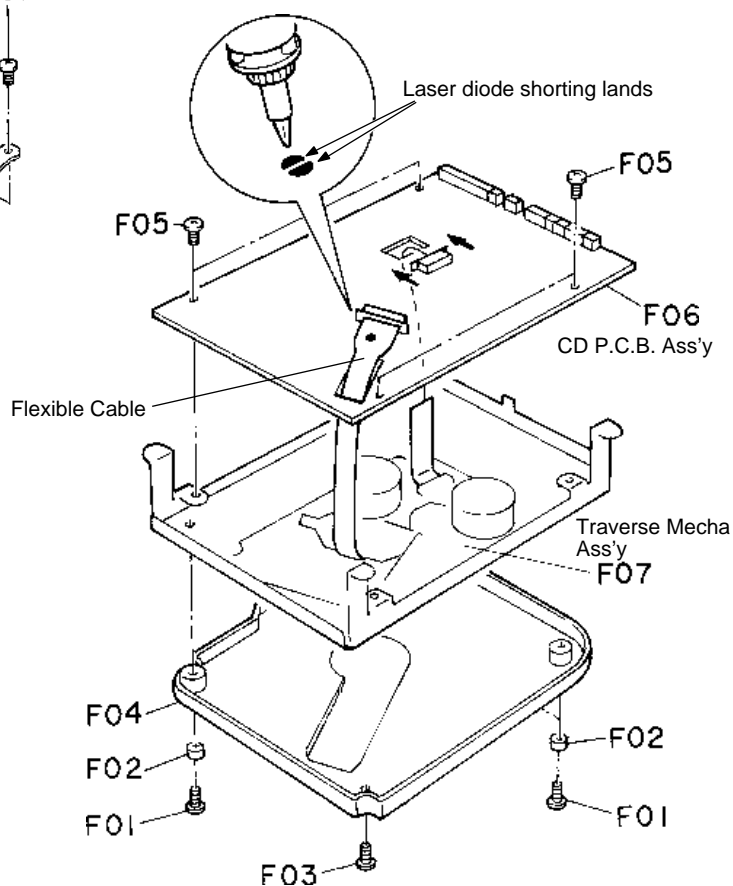

Fig. 1.8.2
- (4) Remove screws F01 (M2.6x4 + Binding (Black), 3 pcs.), collars F02 (3 pcs.) and one screw F03 (M2.6x4 + Pan (Black)), and detach F04 (Traverse Cover CD). Refer to Fig. 1.8.2.
- (5) Short the laser diode shorting lands with a soldering iron.